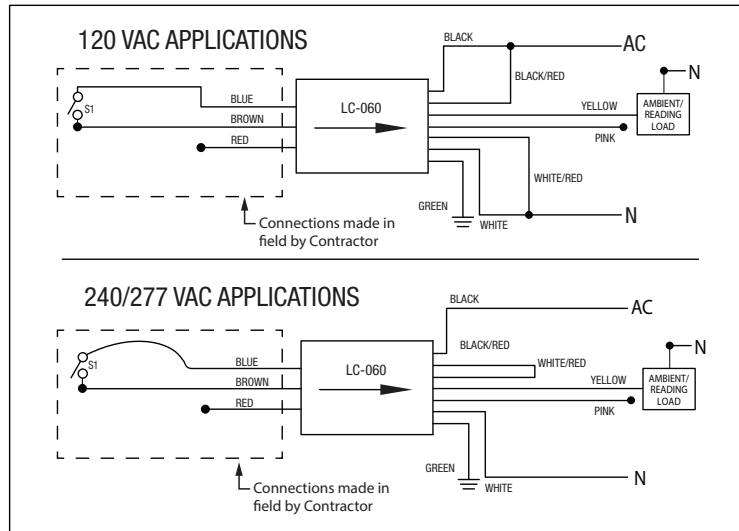

Figure 6: LVC1- Independent control of ambient/reading mode with one SPST momentary switch
4. If a Low Voltage Controller (LVC) is present, secure flexible conduit or cable (supplied by others) through a knockout of the access plate. Locate the low voltage control wires of the in-fixture device and terminate to corresponding wiring of the nurse call system (Supplied by others.) See **Figures 6–9** in Section D for further details on LVC wiring).
6. If a Low Voltage Controller (LVC) is present, secure conduit or cable (supplied by others) to the back of the housing through the knockout beneath the conductor separation plate (with 0–10v conductors if present). Locate the low voltage control wires of the in-fixture device beneath the conductor separation plate and terminate to corresponding wiring of the nurse call system (Supplied by others. See **Figures 6–9** in Section D for further details on LVC wiring).